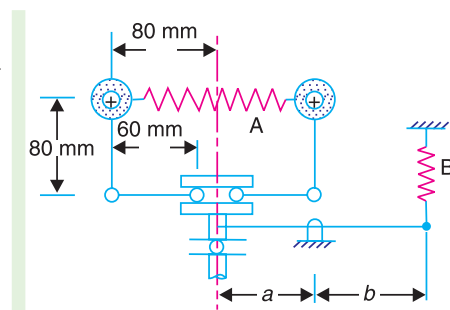

Fig. 18.50
19. A spring loaded governor of the Wilson-Hartnell type is shown in Fig 18.50. Two balls each of mass 4 kg are connected across by two springs A. The stiffness of each spring is 750 N/m and a free length of 100 mm. The length of ball arm of each bell crank lever is 80 mm and that of sleeve arm is 60 mm. The lever is pivoted at its mid-point. The speed of the governor is 240 r.p.m. in its mean position and the radius of rotation of the ball is 80 mm. If the lift of the sleeve is 7.5 mm for an increase of speed of 5%, find the required stiffness of the auxiliary spring B.